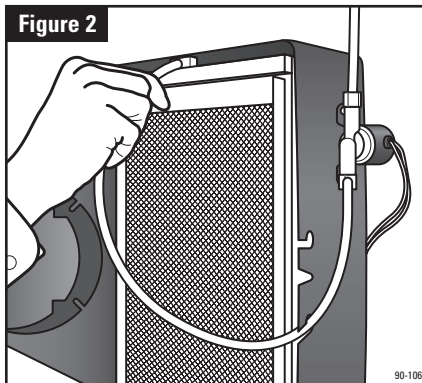

Figure 2
6. Reinstall the evaporative assembly back into the base, with the bottom of the scale control insert (6) sitting firmly in the inside of the drain spud (9). Push the feed tube back into the water distribution tray. (See **Figure 2**) Put the front cover back on. If the nameplate (11) is upside down, remove it and rotate the nameplate so it is right side up, and snap back into place. Turn damper handle (8) to the open position "WINTER" for the heating season, or closed position "SUMMER" for the cooling season.